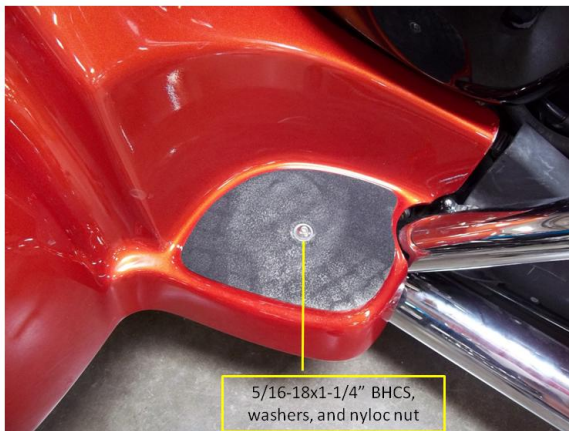

Figure 20
- k. Peel the supplied grip tape and apply it on the body. Use both 5/16-18x1-1/4 BCHS with SS washer, washer and nyloc nut. Repeat on LHS. Torque to 20 ft-lbs. Figure 20 shows the bolt location.